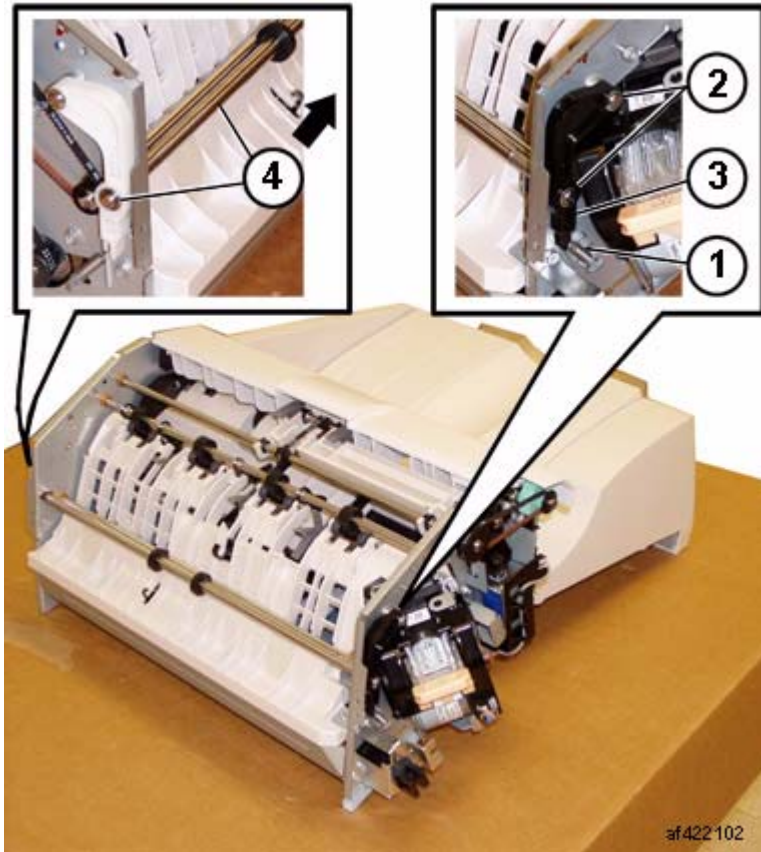

Figure 3 Removing the Gear (af422102)
7. Remove the ENT Roll Assembly. (Figure 3)